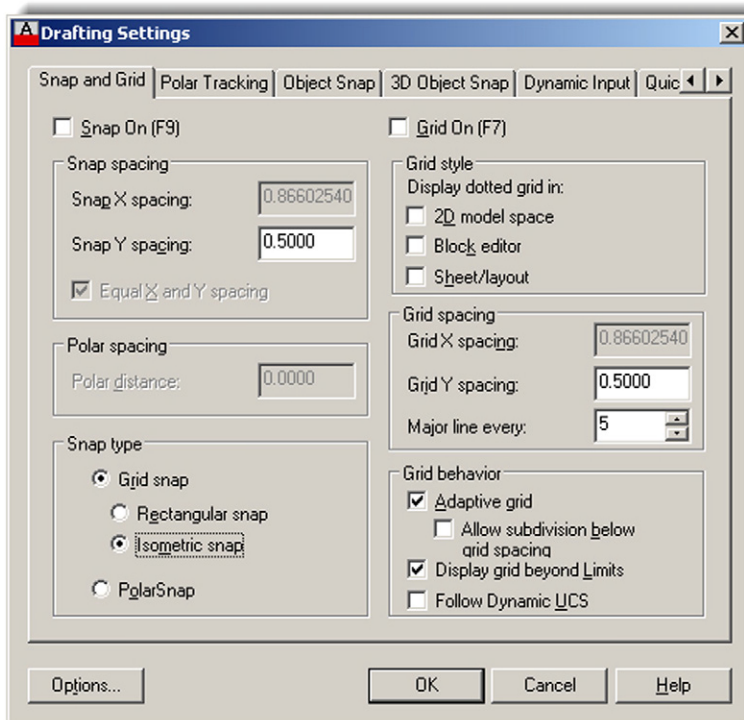

FIGURE 20.3
Step 2. From the cascading menu select Tools → Drafting Settings..., and the dialog box seen in Figure 20.3 appears.
- Step 3.** Pick the Snap and Grid tab, go to the Snap type category (lower left), pick Isometric snap, and press OK. Figure 20.3 is a screen shot of the Drafting Settings dialog box with Isometric snap selected.